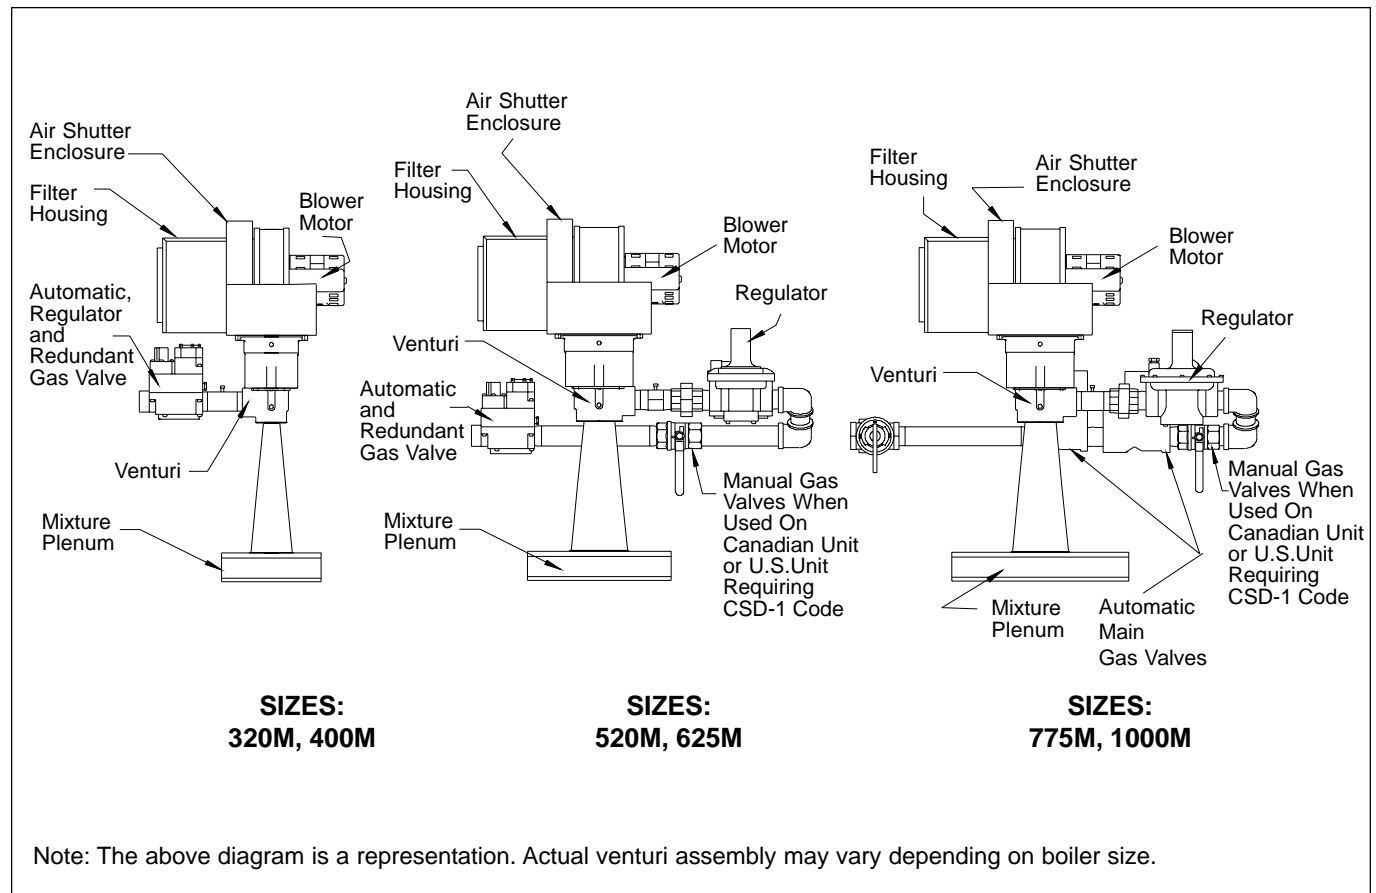

Figure 3. Boiler Gas Valve Arrangement.
- Gas piping installation must be in accordance with the latest edition of ANSI Z223.1/NFPA 54. In Canada, the installation must be in accordance with CAN1-B149.1 or .2 and all local codes that apply. See Figure 3 for boiler gas valve arrangement.